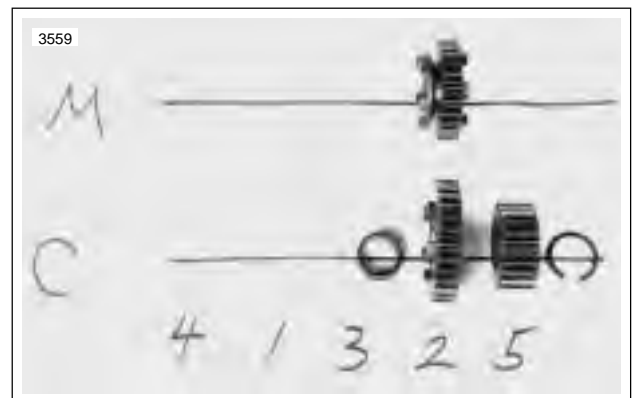

Figure 6-35.
3. See Figure 6-35. As each component is removed, place it on a clean surface in the exact order of removal.